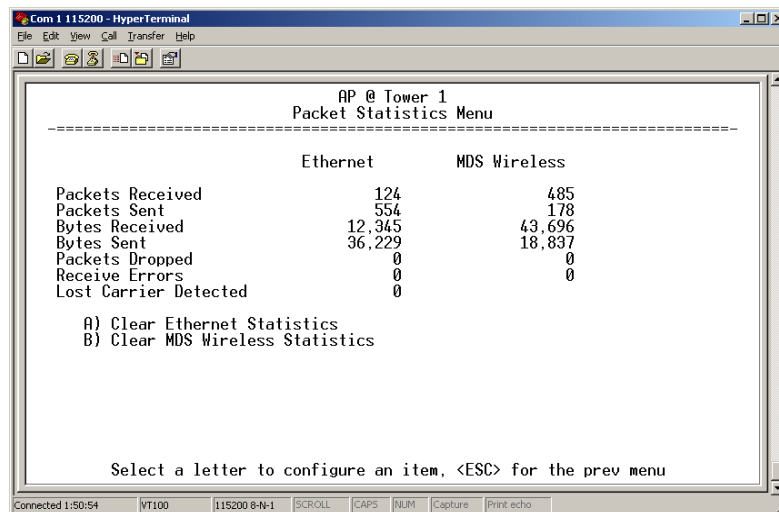

Figure 3-44. Packet Statistics Menu
- **Packet Statistics**—Multiple radio and network operating statistics. (See Figure 3-44 for details.)